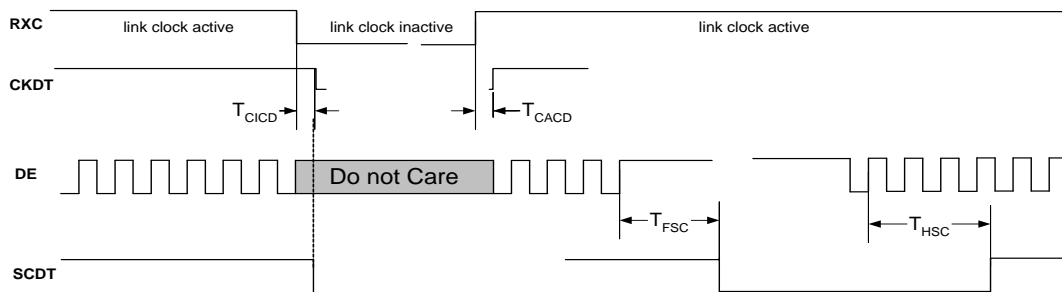

Figure 7. SCDT and CKDT Timing from DE or RXC Inactive/Active
| T_{FSC} | Link disabled (DE inactive) to SCDT LOW | — | — | 0.15 | 40 | ms | Figure 7 | 1, 2, 3, 8 |
| T_{HSC} | Link enabled (DE active) to SCDT HIGH | — | — | — | 4 | DE | Figure 7 | 1, 2, 4, 8 |
| T_{CICD} | RXC inactive to CKDT LOW | — | — | — | 100 | μ s | Figure 7 | 1, 2, 8 |
| T_{CACD} | RXC active to CKDT HIGH | — | — | — | 10 | μ s | Figure 7 | 1, 2, 8 |
1. The SCDT shown in Figure 7 is a register bit. SCDT remains HIGH if DE is stuck in LOW while RXC remains active, but SCDT changes to LOW if DE is stuck HIGH while RXC remains active.
2. The CKDT shown in Figure 7 is a register bit. CKDT changes to LOW whenever RXC stops, and changes to HIGH when RXC starts. SCDT changes to LOW when CKDT changes to LOW.